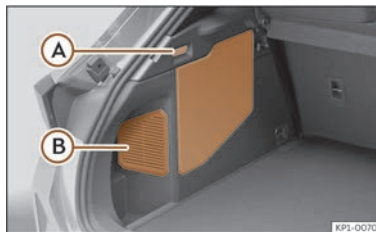

Fig. 231 Hybrid vehicles (PHEV): location of the battery in the luggage compartment
- Pull the handle >>> Fig. 231 to open the 12-volt battery protection cover.
Do not cover or cover the cooling grille of the 12-volt battery >>> Fig. 231.